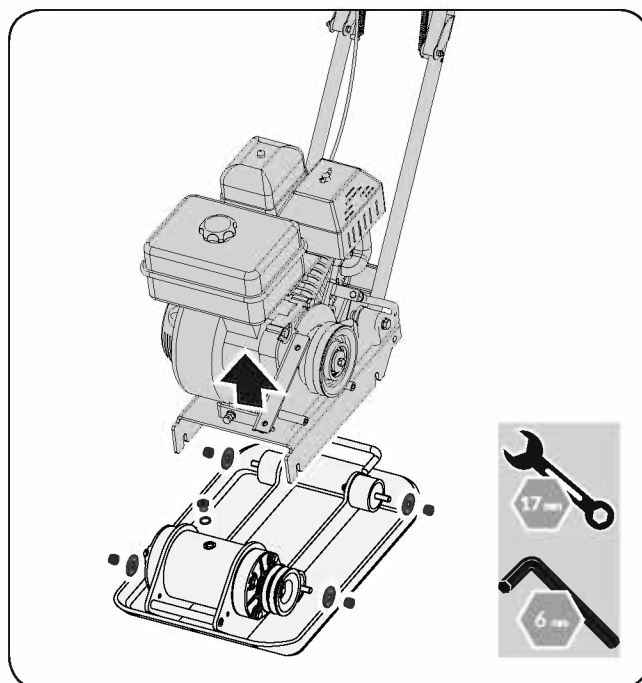

Figure 9a
3. Remove the bolts that hold the deck to the housing. (See **Figure 9a**)